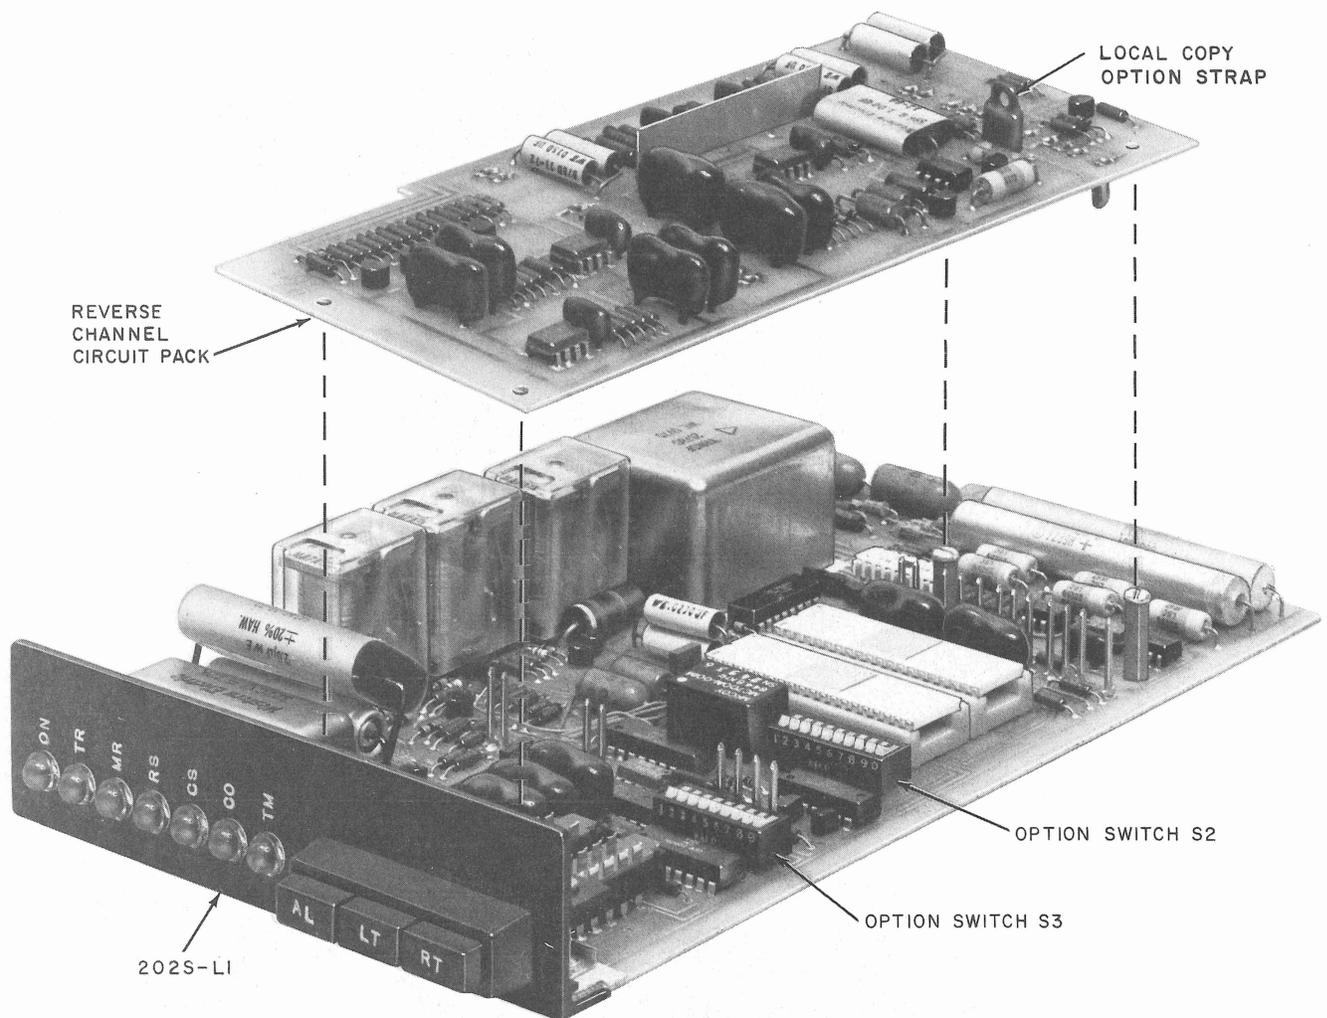

Fig. 5—Data Set 202S-L1/3 (-L1A/3A Is Similar)
C. Data Sets 202S-L1/3 (MD), -L1A/3A (MD), -L1/3A (MD), and -L1C/3B
2.08 These list codes specify the basic data set with the reverse-channel circuit pack installed (Fig. 5 and 6). The reverse-channel circuit pack [JY1 (MD), JY2 (MD) or JY3] is a printed wiring board measuring 2.54 cm high by 8.6 cm wide by 19 cm long (1 in. by 3.4 in. by 7.5 in.). It includes filters, switching circuits, and demodulator circuits needed to perform the reverse-channel function. Interconnection to the data set is via 20 female contact receptacles mounted on the bottom of the board which mate with the contact posts on the data set. Four retaining screws secure the circuit packs together mechanically. The screws are stored in threaded eyelets on the front edge of the circuit pack.